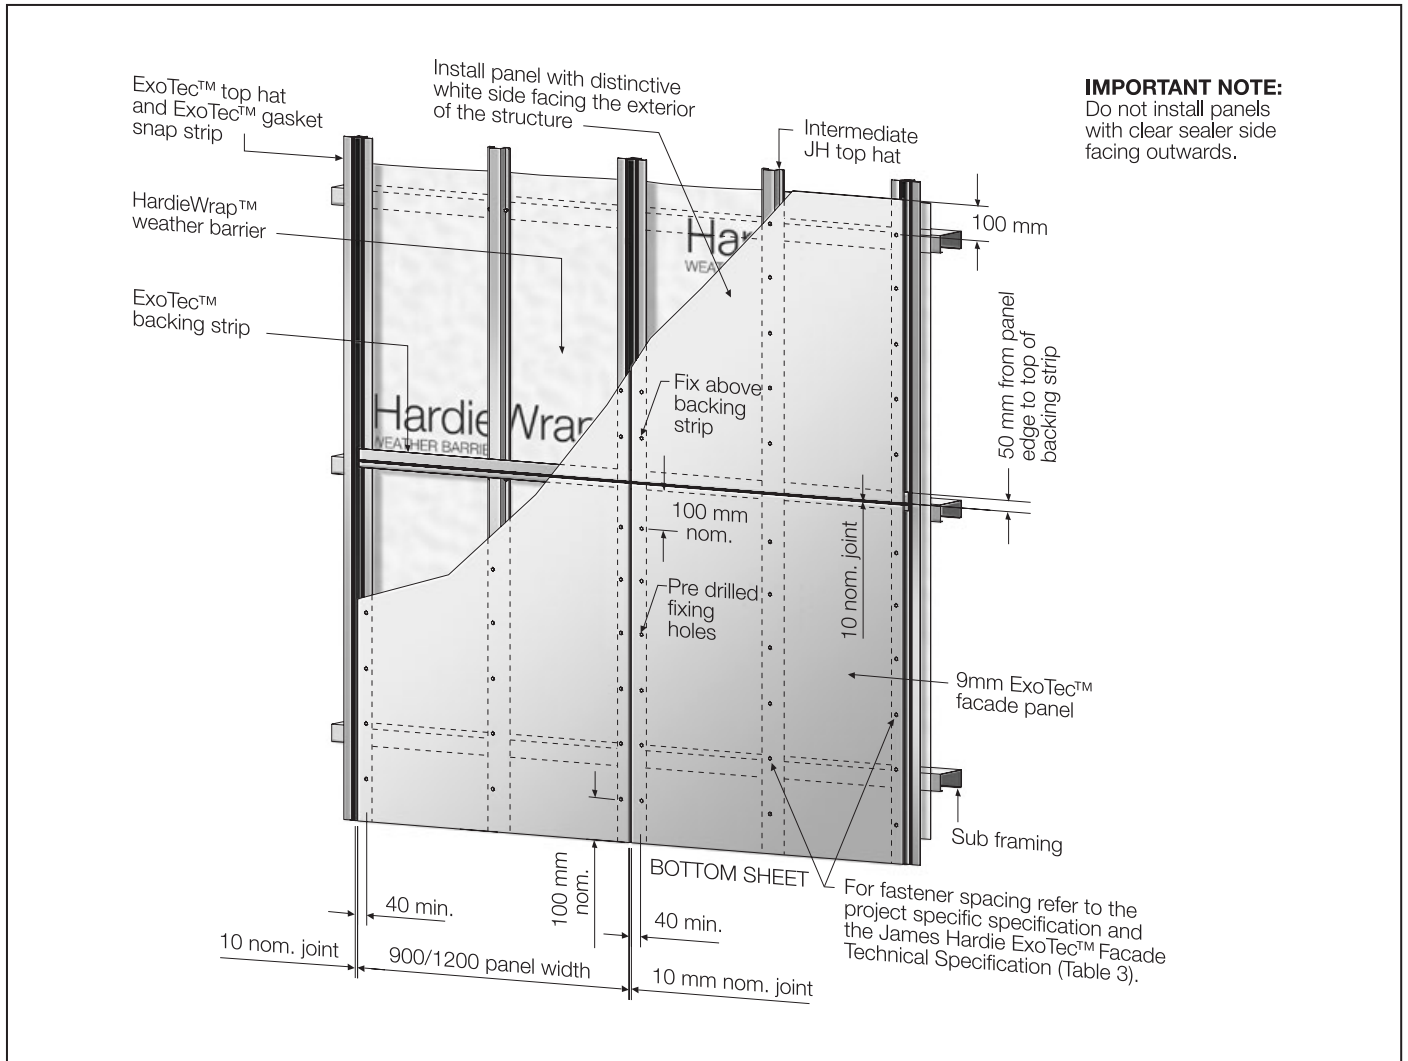

FIGURE 8 TYPICAL PANEL AND FRAMING LAYOUT
1. Mark fastener locations as specified, see Figure 8.